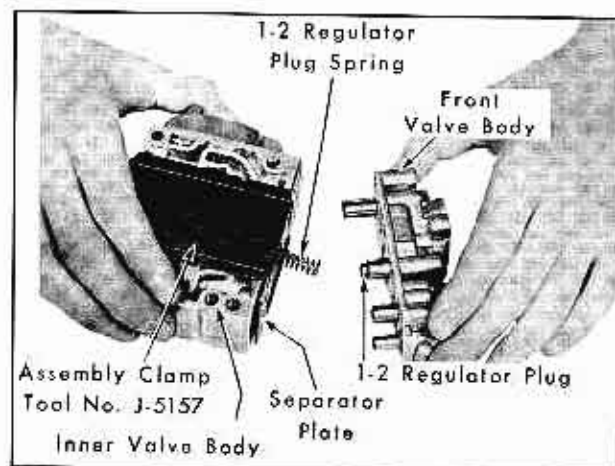

Fig. 14-76 Assembling Front to Inner Valve Body
4. With front valve body assembly and inner valve body assembly on a clean, flat surface, bring the two assemblies together, Fig. 14-76.